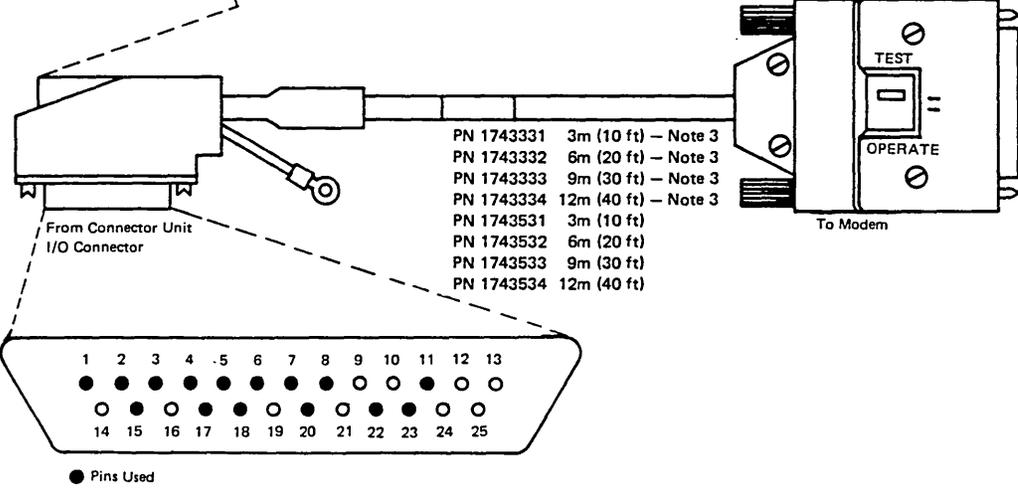

Figure 5-3. Communications Line Flow, EIA
An external modem, or equivalent device, with its own clocking can be attached to a 3274 Model 51C or 52C (w/o V.35). The 3274 must have the external modem interface (EIA or V.35) and either a CCA or an HPCA installed. The V.35 interface provides support for communication line speeds up to 57.6K bps for SDLC and 9600 bps for BSC on Model 51C. The V.35 Interface Communications Line Flow – Model 51C is shown in Figure 5-2, a foldout at the back of this manual (page FO-1). Switched network backup is available with auto answer/manual call on IBM (EIA) modems. A determination should be made as to the wrap capabilities of the modem being used. The 3274 communication line flow for EIA is shown in Figure 5-3.
- Check the internal I/O cable in board position Y1, and the external I/O communication cable for defects. See line flow Figures 5-3 through 5-5.*